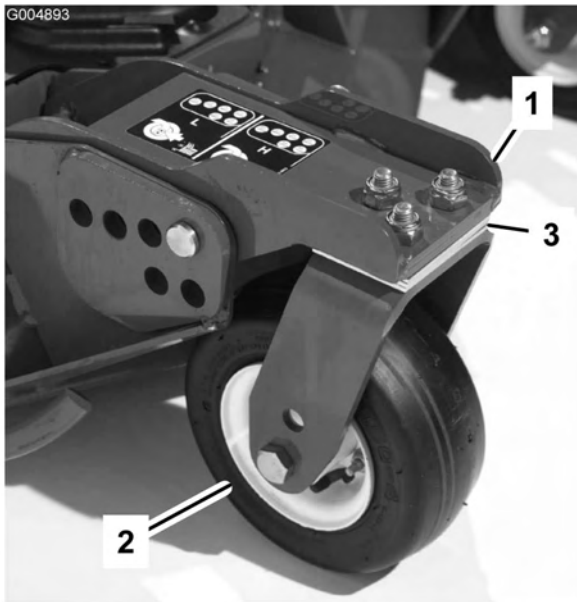

Figure 82
1. Remove the cap screws and nuts securing the castor arm to the castor fork (Figure 82).